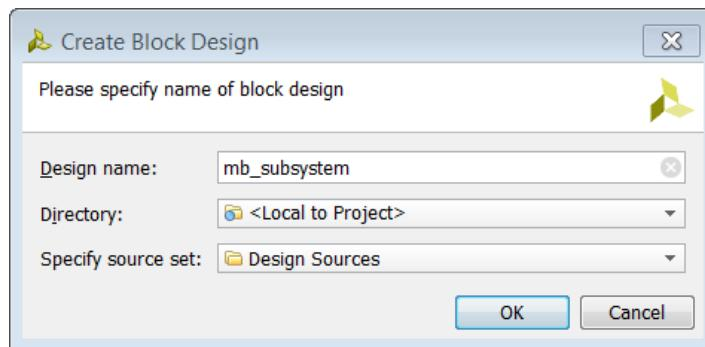

Figure 99: Name Block Design
4. Click **OK** in the Create Block Design dialog box, shown in Figure 99.